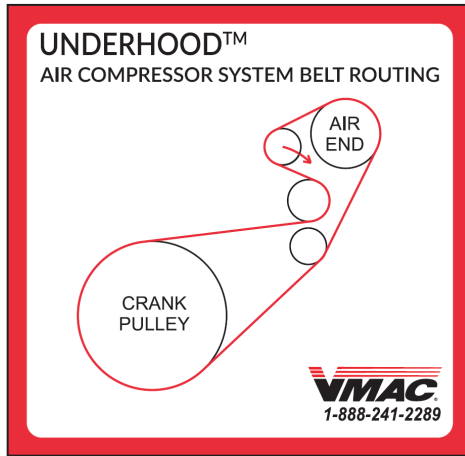

Figure 50 — Belt routing decal
- Install the VMAC belt routing decal in a suitable location under the hood (Figure 50).